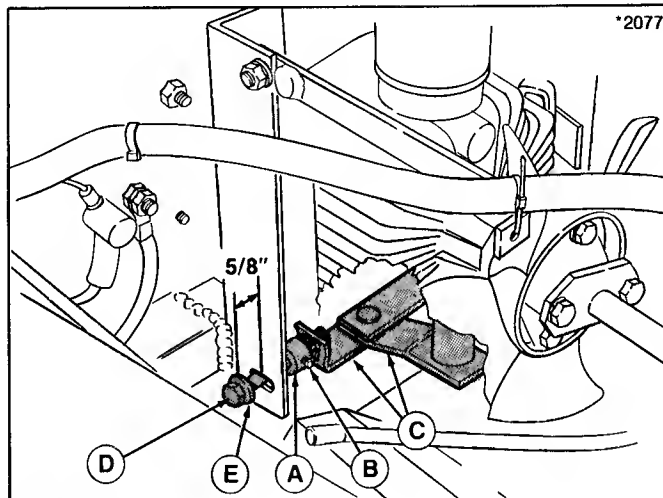

Figure 18.
The maximum reverse speed of each hydro pump is controlled by the position of a set collar (A, figure 18) that limits the travel of hydro input linkage (C).